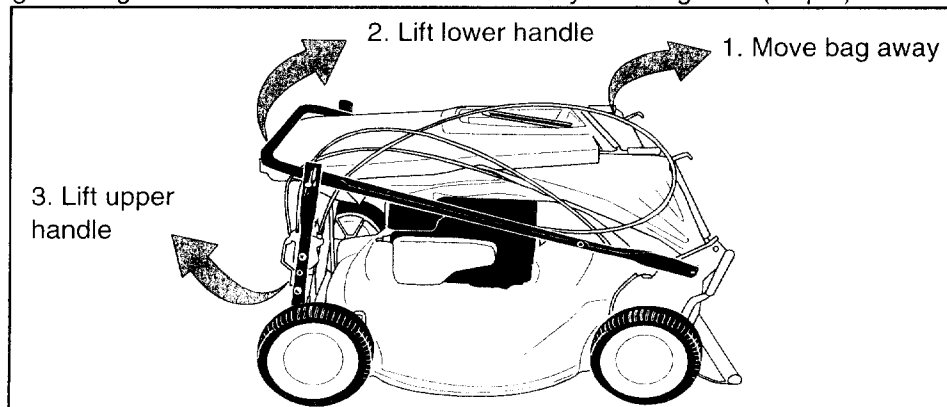

FIGURE 3
- Remove grass bag from the unit and set it out of the way. See Figure 3 (step 1).
- Raise the lower handle in the direction shown in Figure 3 (step 2) till it snaps into place.
- Raise the upper handle in the direction shown in Figure 3 (step 3). Tighten the wing nuts which are already on the handle. See Figure 4A.